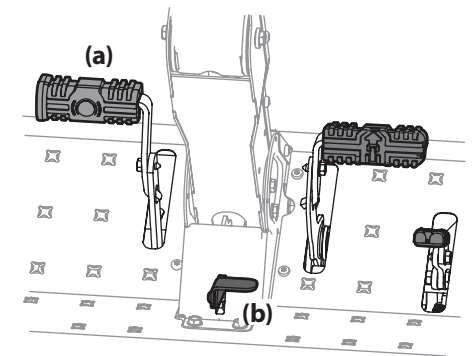

Figure 3-2
3. Engage the parking brake by pressing forward on the brake pedal (a), then press down on the parking brake/cruise control lever (b) and then release the brake pedal (a). Refer to Figure 3-2.